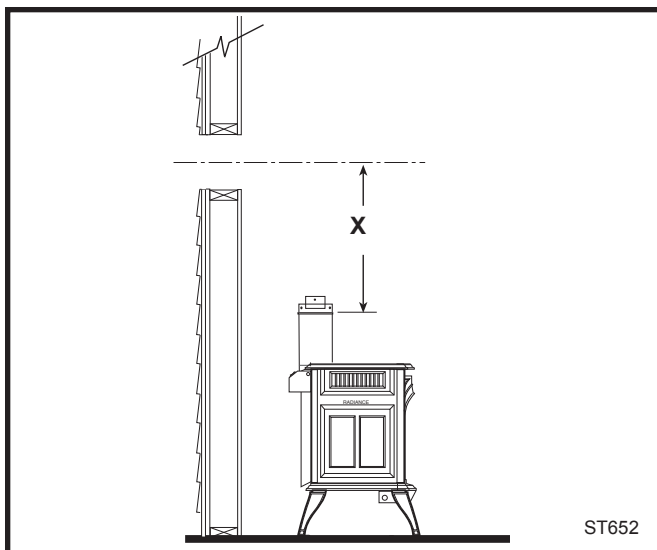

Fig. 26 Determine the vertical pipe length.
4. For MHSC Vent Pipe only: If necessary, measure to determine the vertical length (X) of pipe required from the adapter pipe to the wall cutout centerline, including a 2" overlap at the joint. (Fig. 26) use a hacksaw or tin snips to trim the pipe as needed.